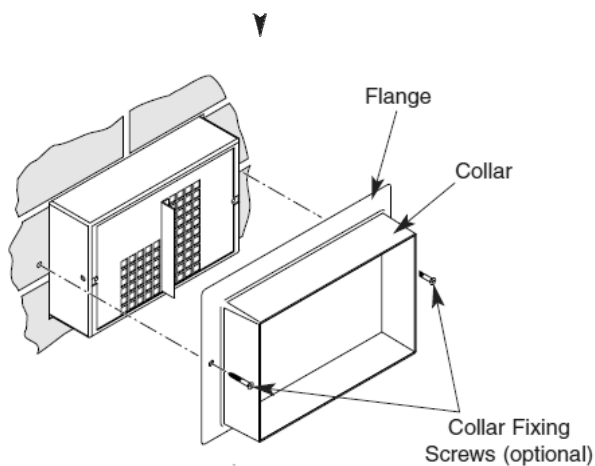

Fig. 8
1. With the cowl removed, slide the collar (flange first) on to the unit and press the flange firm against the outer wall (Figs. 8 & 9).
4. If firmer fixings are required, secure the flange to the wall using plugs and screws (Fig. 8).